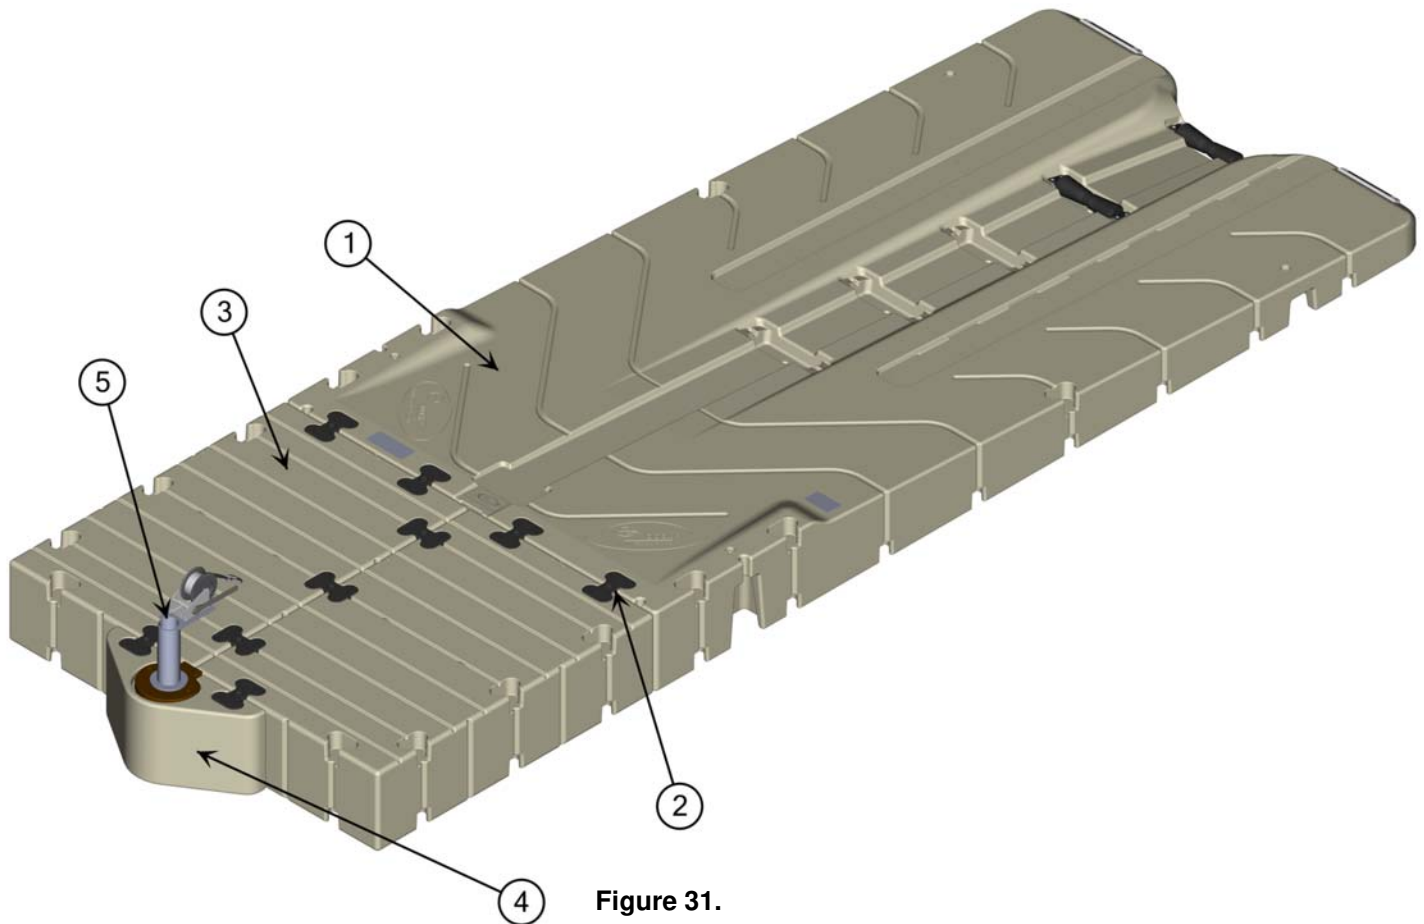

Figure 31.
1. Couple additional dock sections (Item 3) to the front of the EZ BoatPort (Item 1) (see *Section 1A* for EZ Dock Coupler Installation instructions). **Note:** Other dock sections may be used in place of two 40" x 5' dock sections (Figure 31).
2. Couple 3-1/2" heavy duty pipe bracket (Item 4) to the front of additional dock sections directly in front of the two (2) middle pockets on the EZ BoatPort (Figure 31). For installation instructions of heavy duty pipe bracket please see the *EZ Dock Owner's Manual* under the *Pipe Anchoring* section.